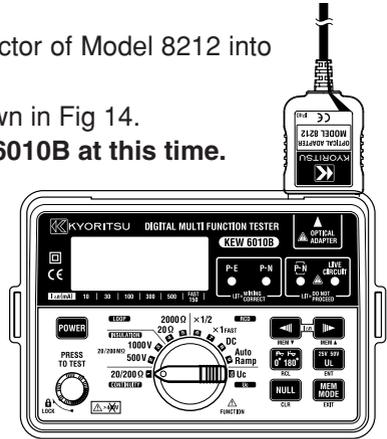

Fig 14
(1) Firmly insert the D-SUB 9Pin female connector of Model 8212 into the socket (D-SUB 9Pin male) of PC.
(2) Insert Model 8212 into KEW 6010B as shown in Fig 14.
(3) Power on KEW 6010B. (Any function is OK.)
(4) Start special software "KEW Report" on your PC and set the communication port. Then click "Down load" command, and the data in KEW 6010B will be transferred to your PC.